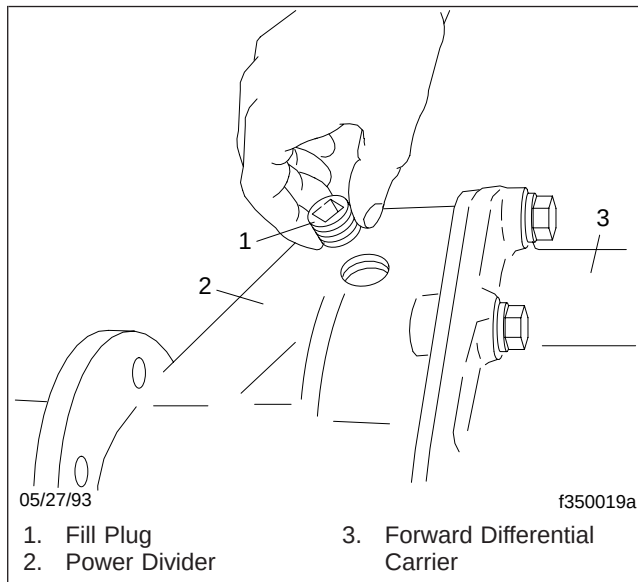

Fig. 4, Power Divider Fill Plug
- 8.3 For forward drive axles, remove the power divider fill plug, located slightly offset to the right in the top portion of the forward differential carrier. See Fig. 4.